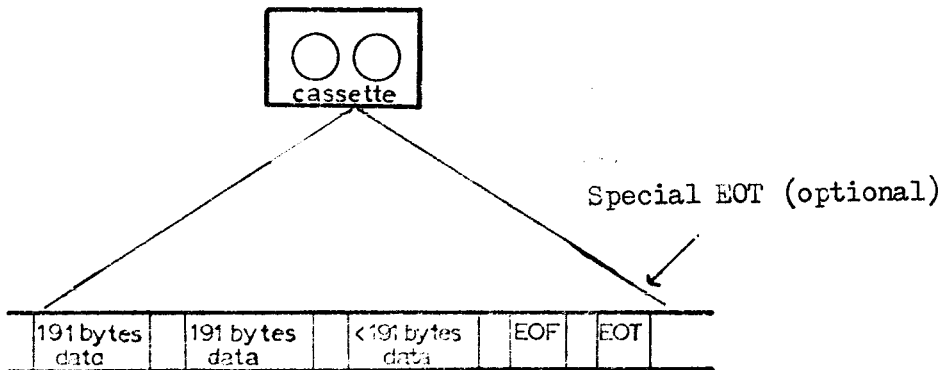

Fig. 3. File layout.
2. File Format. Information is written from the cassette buffer to the tape in blocks of 191 bytes. Data is recorded on tape just like data is written to the TV display. When a file is CLOSED, the PET always writes an end of file (EOF) signal. You can tell the PET to write an end of tape (EOT) after the EOF. You can see in Fig. 3 the logical cassette layout.